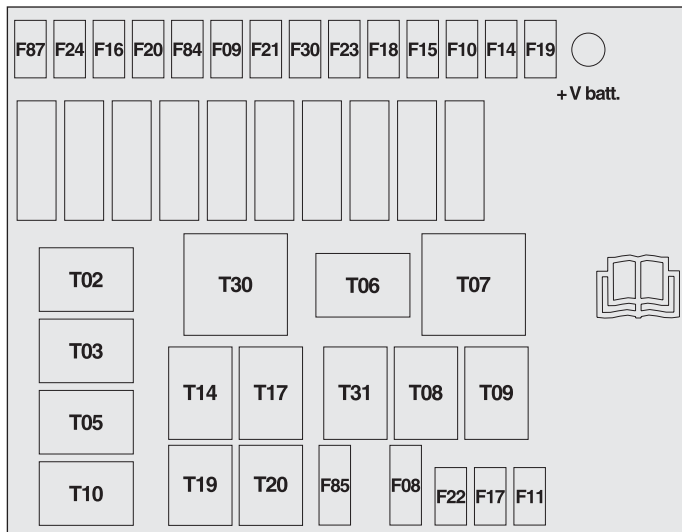

fig. 49
**Engine compartment fusebox - fig. 49**
**Engine compartment unit - fig. 49**